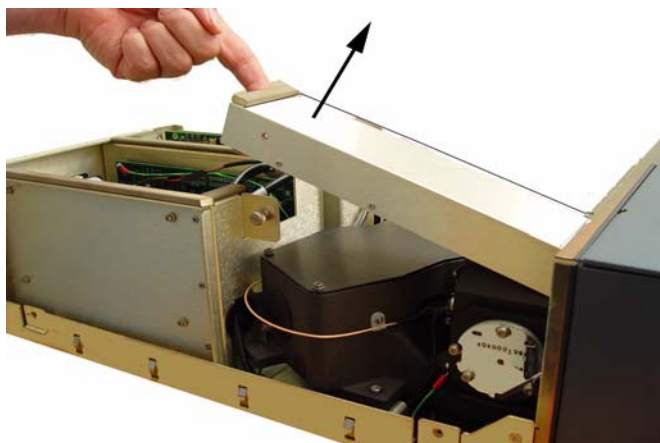

Figure 2 - Removing Plenum
6. Loosen the captive screw that secures the plenum to the chassis, and then remove the plenum from the detector (Figure 2).